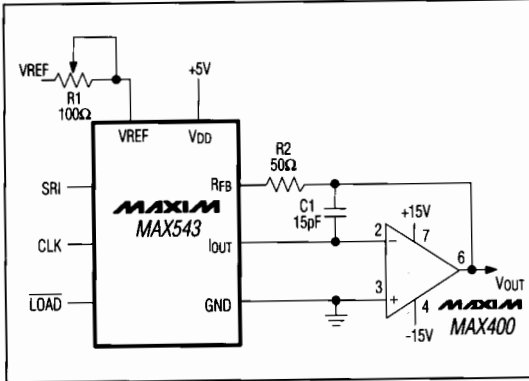

Figure 3. Unipolar Operation
The current output (IOUT) can be converted into a voltage by adding an external output amplifier (Figure 3). The VREF input accepts a wide range of signals, including fixed and time-varying voltage or current inputs. If a current source is used for the reference input, then a low-tempco external resistor should be used for RFB to minimize gain variation with temperature.
Figure 3 shows the MAX543's basic application. This circuit is used for unipolar operation or 2-quadrant multiplication. The code table for this mode is given in Table 1. Note that the polarity of the output is the inverse of the reference voltage, VREF.
**Table 1. Unipolar Binary-Code Table for Circuit of Figure 3**
In many applications, gain adjustment will not be necessary since the part's gain accuracy is sufficient, or is trimmed at the reference source. In these cases, resistors R1 and R2 in Figure 3 can be omitted. If the gain is trimmed and the DAC is operated over a wide temperature range, use low-tempco (<300ppm/°C) resistors for R1 and R2.
The unipolar and bipolar circuits in Figures 3 and 4 can all be converted to voltage-output mode.